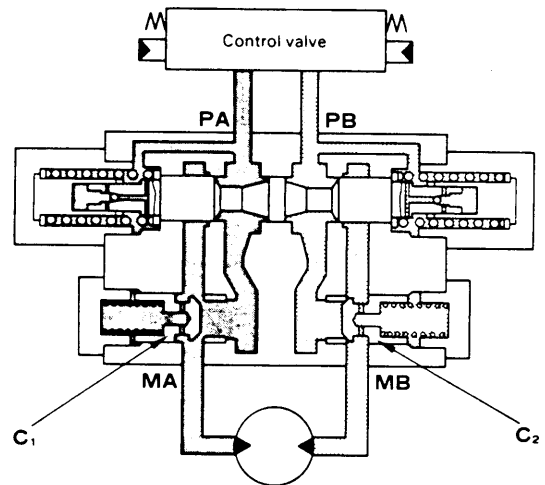

Fig.2
- When the travel lever is operated, the pressurized oil from the control valve is supplied to port **PA**. It pushes open check valve **C1** and flows from motor inlet port **MA** to motor outlet port **MB**. However, the motor outlet port is closed by check valve **C2** and spool (1), so the pressure at the supply side rises. (Fig. 2)